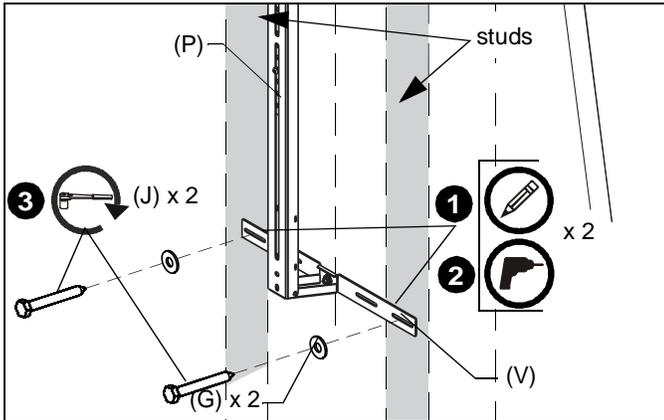

Figure 20
**NOTE:** If installing to a wood or steel stud wall, drywall anchors (L) are required if the lower wall brackets do not align with the studs.
1. Mark the wall over stud through the lower wall bracket (V) attached to each upright assembly (P). (See Figure 20)
2. Drill one 1/8" pilot hole (wood studs) or 1/2" pilot hole (steel studs) at each mark. (See Figure 20)
3. Use two 1/4" x 2-1/2" lag bolts (J) and two 1/4" flat washer (G) to attach each lower wall bracket (V) to wall. (See Figure 20)